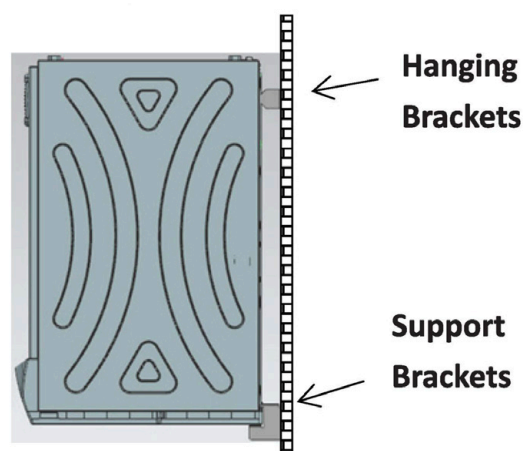

Figure 8- Final wall hanging installation of the dryer, sitting correctly on the hanging and support brackets.
- Ensure hanging brackets are pushed into position and dryer is placed on the support brackets before slowly releasing the full weight onto the brackets (Fig. 8).